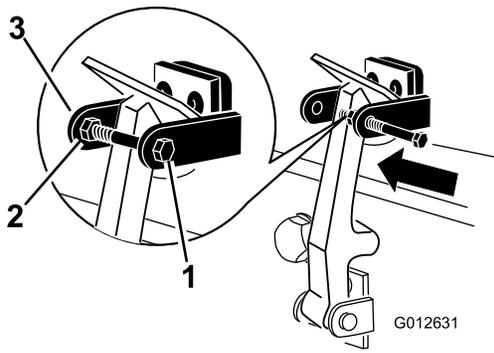

Figure 6
7. Screw the bolt into the other arm of the hood-lock bracket to lock the latch in position (Figure 6). Tighten the bolt but do not tighten the nut.